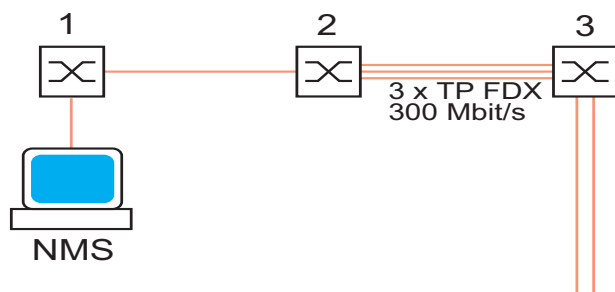

Figure 2: Example: “Defining the first device”
- In the example below (see figure 2), you configure the link aggregation first on device 3, then on device 2. If you accidentally disconnect device 3 from the network, you can access it again by selecting “Allow static link aggregation” in the `Redundancy: Link Aggregation` dialog, or by activating this option via the CLI.